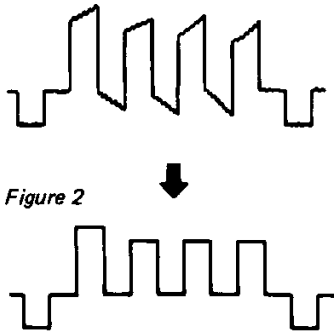

Figure 2
- (1) Adjust T203 (B-Y DISCRI) so that the blue output waveform valleys are the same level.
- (2) Adjust T202 (R-Y DISCRI) so that red output TP8 (R.OUT) waveform valleys are the same level. (Figure 2)
- (3) After completing (1) and (2), fine adjust so that color components do not appear in the color bar black portion and white portion.